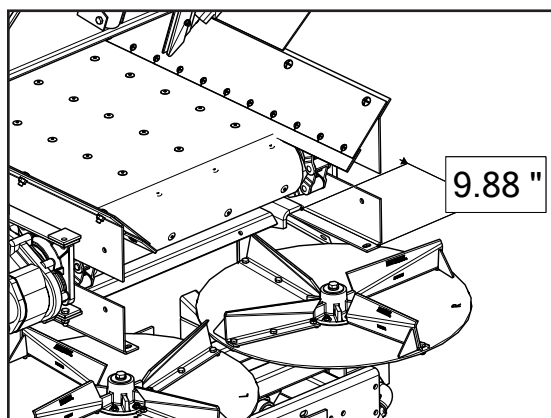

Figure 2
2. Figure 2 - Measure from the Spinner Frame mounting flange to the end of the Sill on each side. Measurement should be 9-7/8" (25cm). Measurements must be equal, or no greater than 1/8" (0.3cm) off overall.